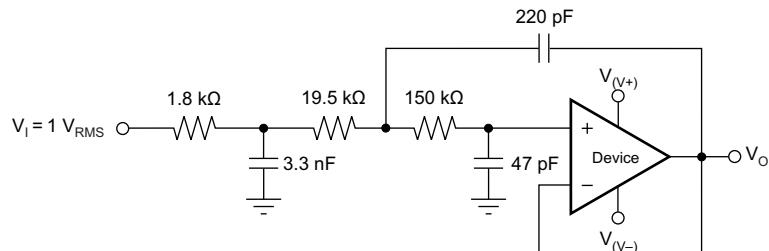

Figure 47. OPAX357 Configured as a Three-Pole, 20-kHz, Sallen-Key Filter
3. Using a noninverting filter topology, such as the Sallen-Key (see Figure 47).